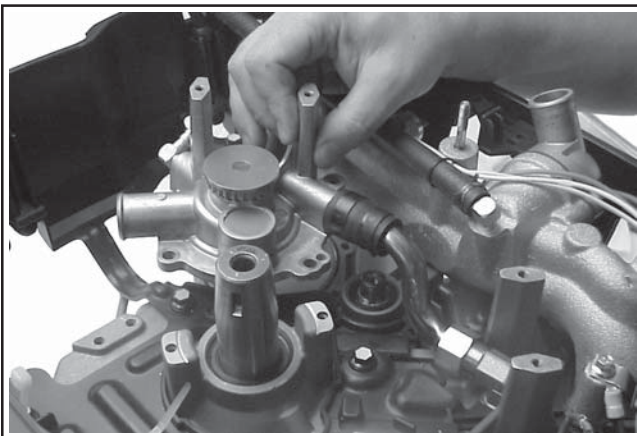

Figure 11-63. Inserting Tube into Ferrule and Hex. Cap.
- 2) Insert the plain end of the transfer tube through the hex. cap and compression ring. See Figure 11-63.